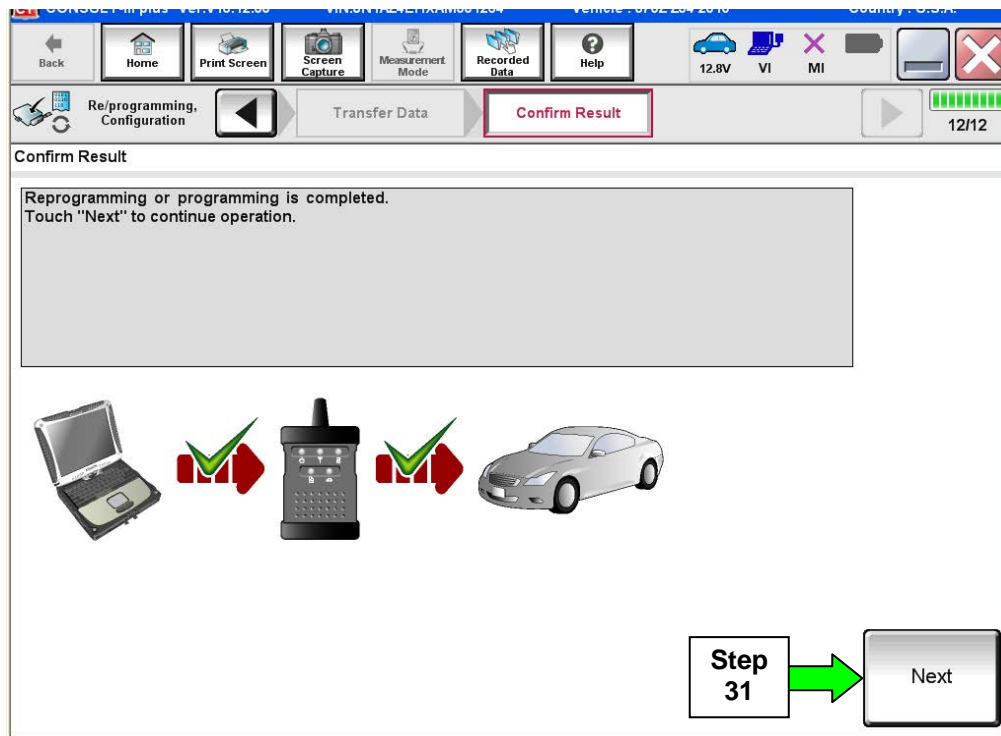

Figure 19a
29. When the screen in Figure 19a displays, reprogramming is complete.
NOTE: If the screen in Figure 19a does not display (reprogramming does not complete), refer to the information on the next page.